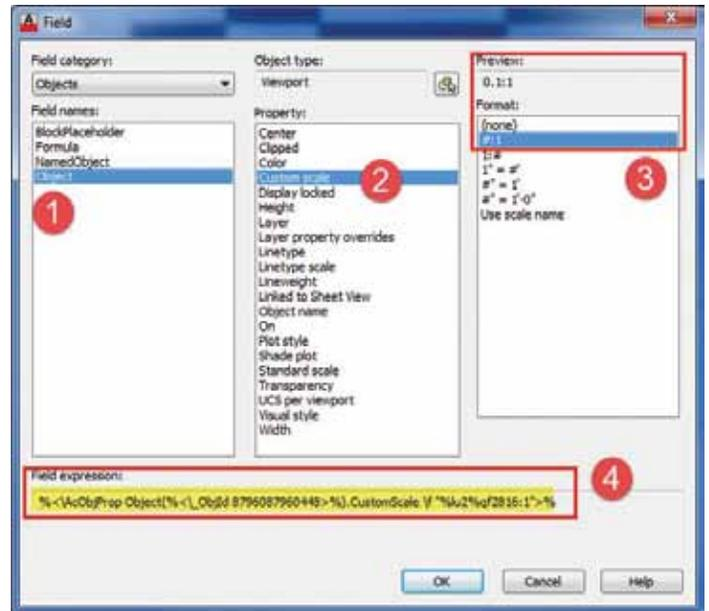

Figure 14: Custom scale fields
We now have the correct scale name shown below the bar; change the viewport scale and watch this change. Keep in mind the name you give the scale is what will appear in the field. Next we have to make sure the numbers correspond with the scale we have selected. Right-click the first number (10) on the scale bar and hit Insert Field—again, using the same technique as before but adding a few new steps as shown in Figure 14. In step 4 we will highlight the text in the field expression—right-click and copy. Under the field category section move to the formula selection under field names.